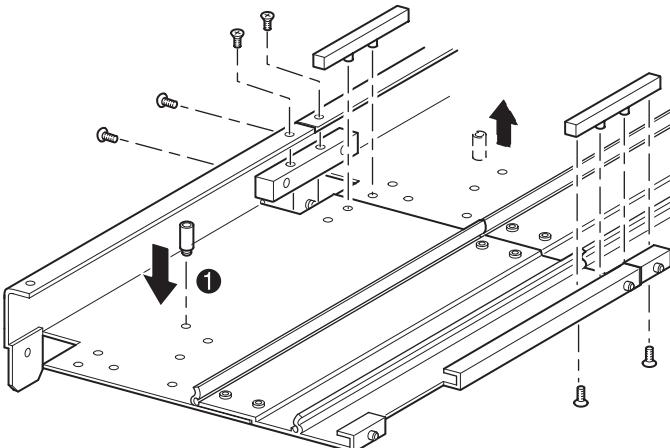

Figure 18: Installing tie bars
- b. Align the pins of the two narrow tie bars with the holes in the extension and PTM base unit (see Figure 18) and then attach them using four mounting screws (two screws for each narrow tie bar).
- c. Attach the large tie bar (beveled edge to the inside corner of the PTM base unit and extension) using four mounting screws (see Figure 18).
11. Remove the bottom stop standoff from the PTM base unit and then attach it to the corresponding mounting hole (①, Figure 18) in the last unit of the extended PTM.